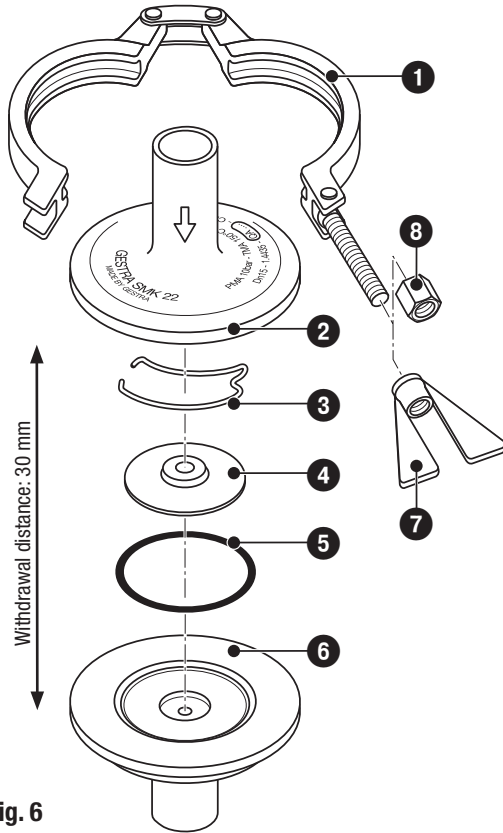
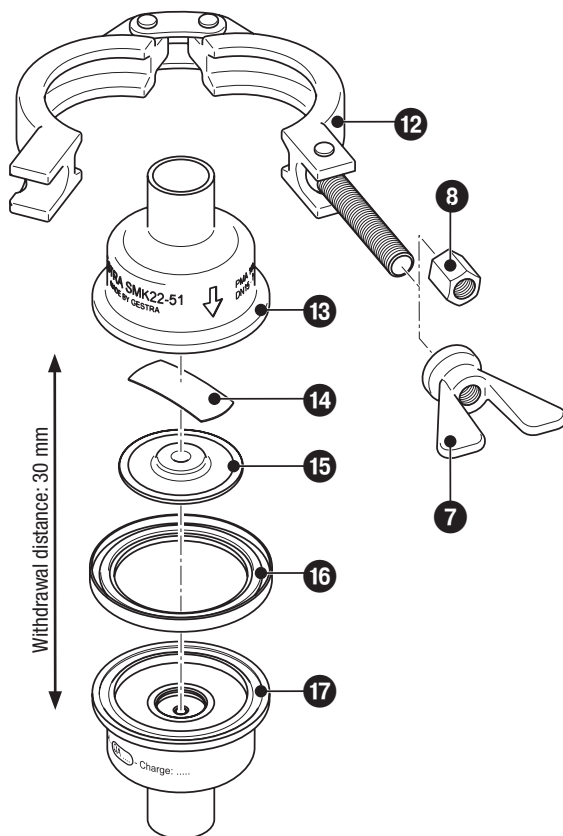
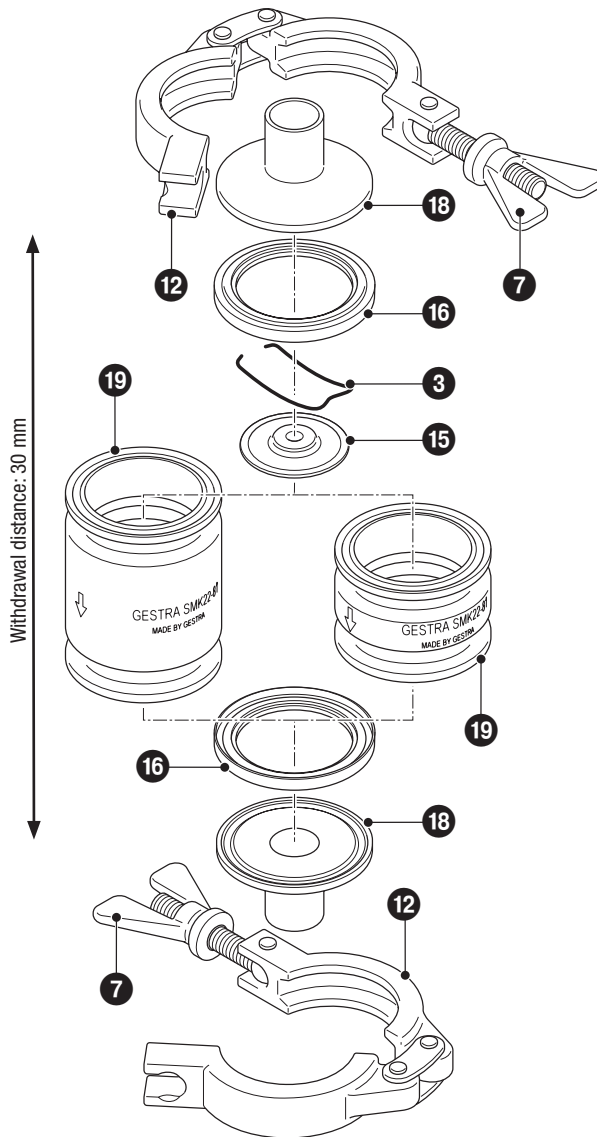

Fig. 6
Fig. 8
Fig. 9
1. Unscrew hexagon nut **8** or wing nut **7** of joint clamp **1** / **12** and remove joint clamp. **Fig. 6, Fig. 8, Fig. 9**